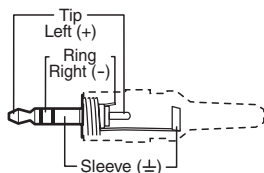

Figure 7 — 3.5 mm stereo audio plug
- ④ **Audio input connector** — Plug a 3.5 mm stereo audio plug into this jack for unbalanced audio input. Wire the plug as shown in figure 7.